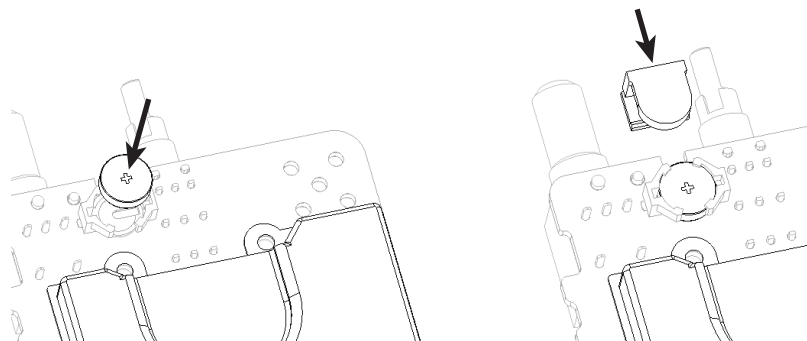

Figure 39. Reassemble the Backup Battery
1. Insert the backup battery (positive side up) into the battery holder, as shown in Figure 39.